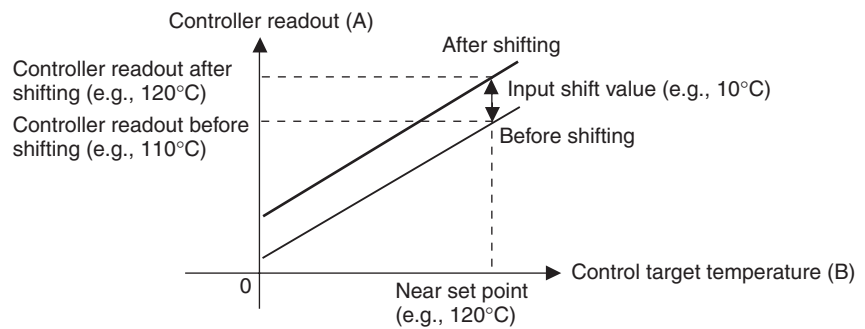

Figure 2 Illustration of 1-Point Shift
2. Check the control target temperature (B) and the Controller readout (A). Subtract the Controller readout temperature (A) from the control target temperature (B), and set $\bar{L}NSL$ and $\bar{L}NSH$ to the result as the input shift value. The shift is illustrated in *Figure 2*.
3. After setting the input shift values, check the Controller readout (A) and the control target temperature (B). If they are almost the same, this completes shifting the temperature input.